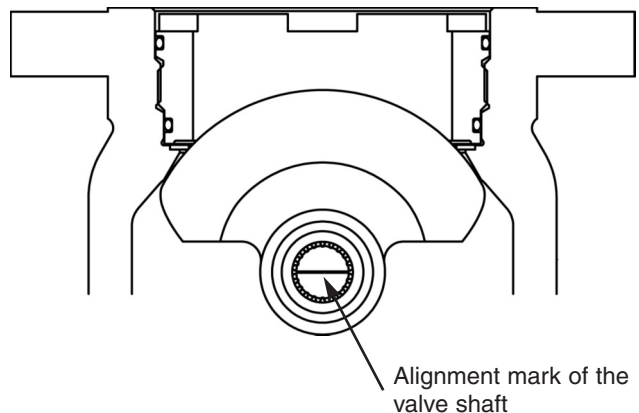

Figure 8: Shaft Alignment
- Pass the actuator yoke through the shaft tip, position the gland flange properly and align the yoke holes with the yoke studs assembled on valve bonnet. To assure a complete rotation of the ball, the mark existing in the shaft end must be aligned as illustrated in Figure 8.